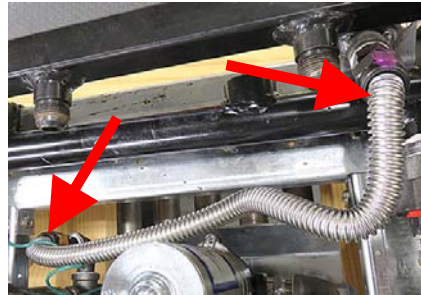
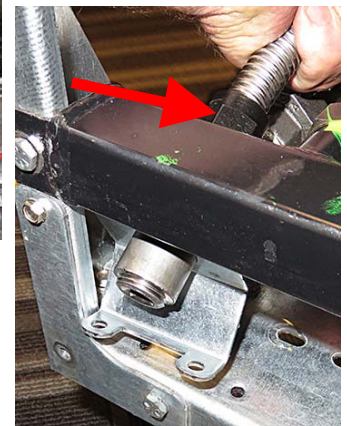

Figure 32
Figure 33
30. Position the fresh oil fill assembly 1085785 on the left side of the fryer, as viewed from the rear between the oil manifold and the gas manifold. Route the flexline around the ATO pump and attach to the assembly shown in Figure 33 to plumbing assembly, to the right of the ATO pump (see Figure 32).